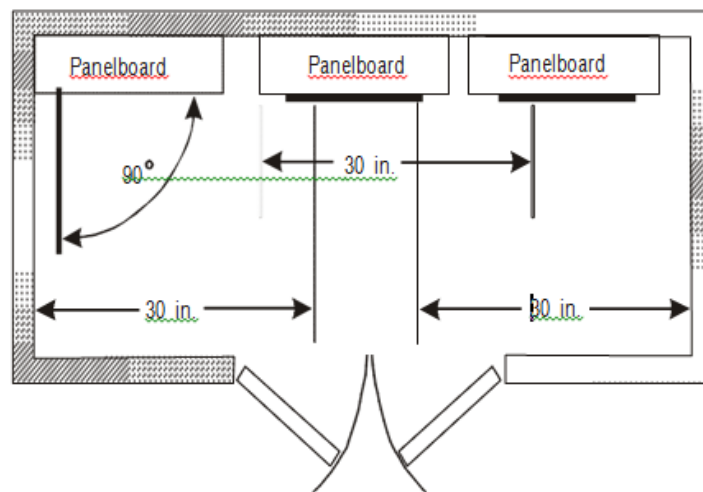

Figure 6.4 – Working space requirements for doors and hinged panels
- c. **Doors and hinged panels** - Doors and hinged panels must have at least at least a 90-degree opening. Keep working space clear at all times. Do not store parts, tools, and equipment in the clear space (see figure 6.4).